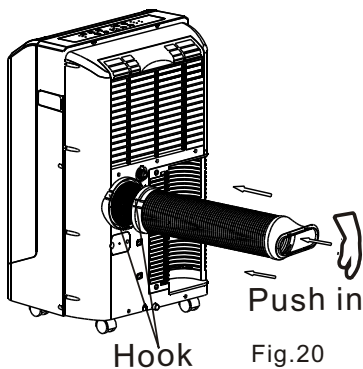

Fig.19
2. Place the Exhaust hose over against the air outlet opening hook (See Fig.19) and flat the other end (See Fig.20) for quick installation.